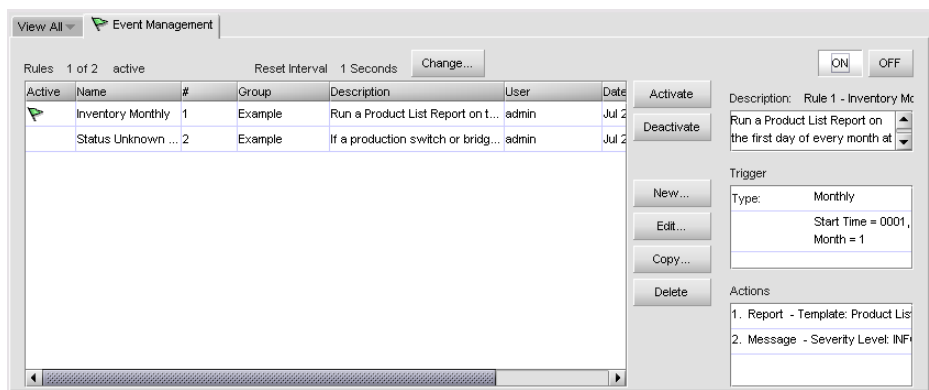

Figure 62 Event Management tab
To view Event Management, click the Event Management tab on the HAFM main window. All configured rules appear (Figure 62). From this dialog box, you can manage Event Management rules. See Table 11 for a description of each screen section.
1. Click the **Event Management** tab on the HAFM main window to display Event Management information (Figure 62).